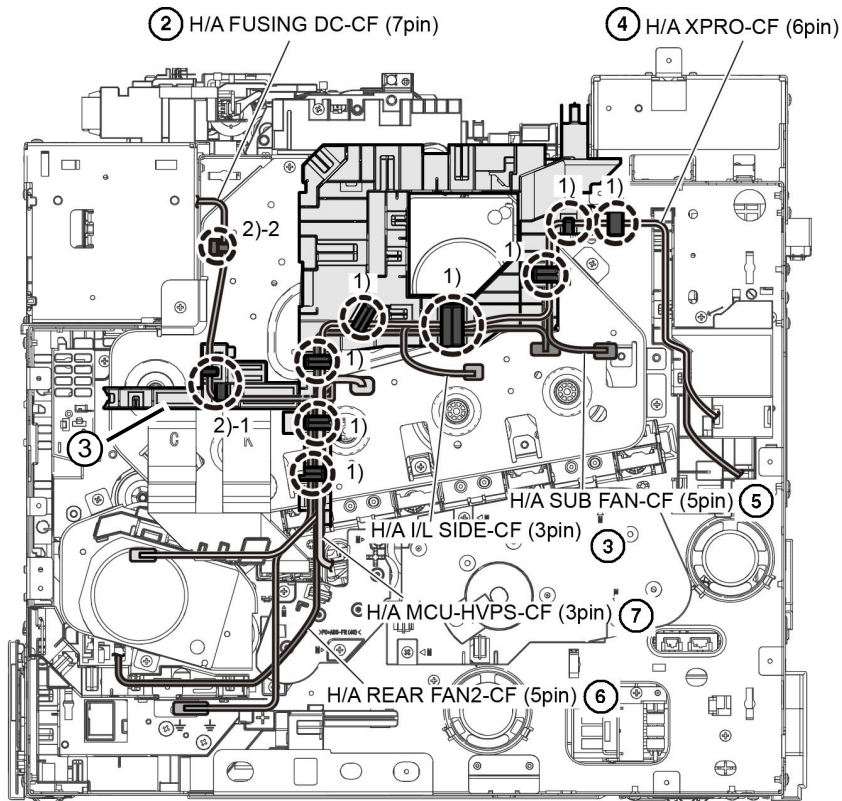
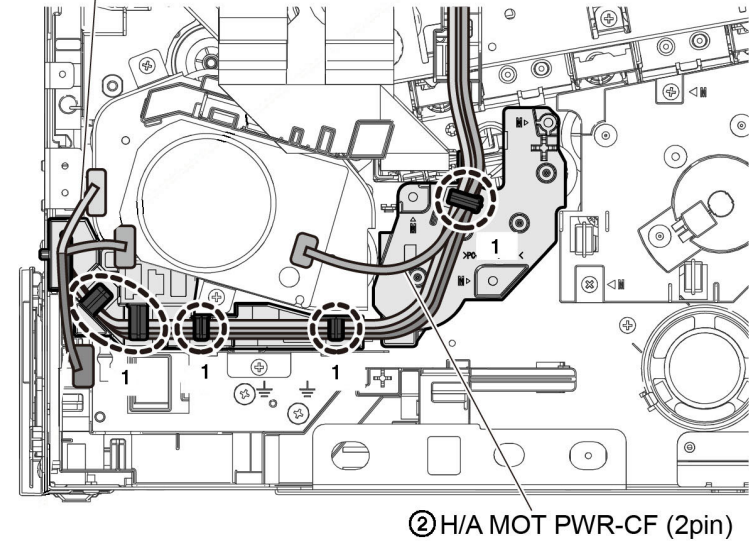

Figure 1 DC harness guide harnesses
Figure 2 AC harness guide harnesses
29. Release the following harnesses from the DC harness guide (1), (PL 18.3 Item 9 / PL 18.11 Item 9), Figure 1:
- Release the MCU-HVPS-CF harness assembly (7), (PL 18.2 Item 9 / PL 18.10 Item 9).
- Release the DC-CF fusing harness assembly (2), (PL 18.3 Item 2 / PL 18.11 Item 2).
- Disconnect the SIDE-CF I/L harness assembly (3), (PL 18.3 Item 5 / PL 18.11 Item 5).
- Disconnect the SUB FAN-CF harness assembly (5), (PL 18.4 Item 8 / PL 18.12 Item 8).
- Disconnect the R-FAN T-LED REGI-CF harness assembly (6), (PL 18.4 Item 9 / PL 18.12 Item 9).
30. Release the following harnesses from the AC harness guide (1), (PL 18.3 Item 16 / PL 18.11 Item 16), and MAIN 3 drive assembly, (PL 3.2 Item 3), Figure 2:
- Disconnect the toner CRUM harness assembly (1), (PL 5.2 Item 10).
- Disconnect the MOT PWR-CF harness assembly (2), (PL 3.2 Item 8).